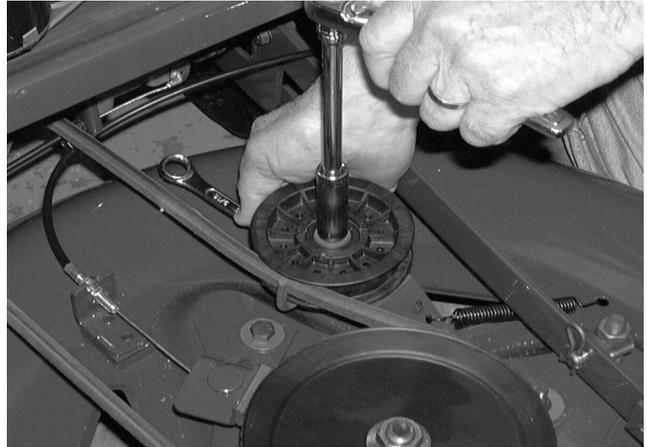

FIGURE 3.
- 8). Loosen the hex nut that secures the flat idler pulley to the idler bracket using a 9/16 wrench and a 9/16 socket. See figure 3.